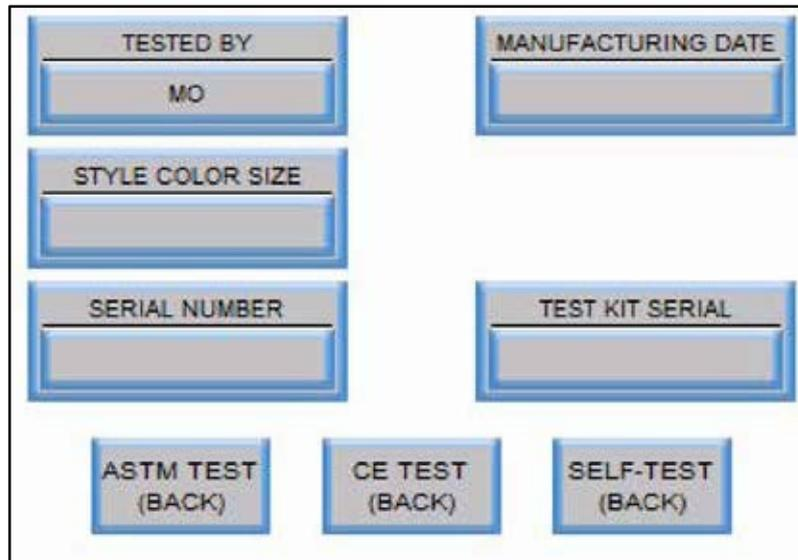

Figure 5: User and Garment Information Page
10. On the test kit touch screen Test Selection Page (Figure 4), press the “ASTM TEST or CE (EUROPEAN) TEST, depending on the test needed. On the Test Page, press the “INPUT USER AND GARMENT INFORMATION” dialog box to reach the User and Garment Information Page (Figure 5). The information for the tester, the style/color/size of the garment, garment serial number, garment manufacturing date and test kit serial number can be recorded. After the necessary information has been entered, press the appropriate button and return to the ASTM or CE test page.